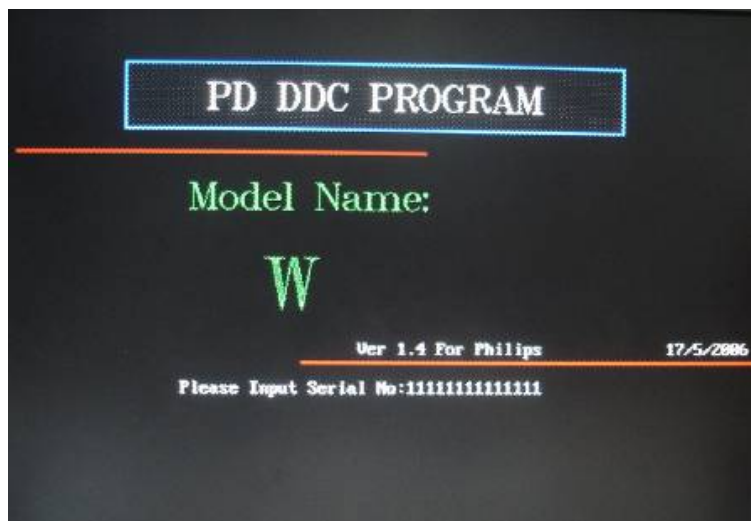

Fig 3
Step 3: Press Enter into the next screen as shown Fig 3.
a. Input 14 byte digital Serial No. such as "11111111111111" as shown Fig 3.